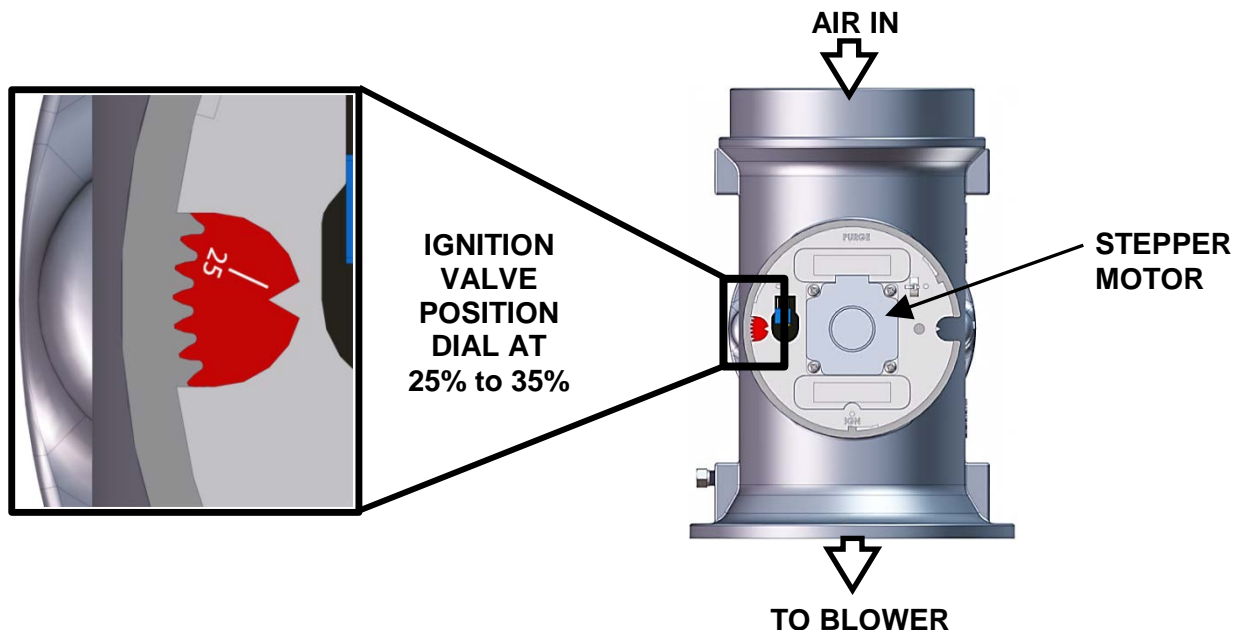

Figure 3-6. Air/Fuel Valve In Ignition Position
- (a) The Air/Fuel Valve rotates to the low-fire ignition position and closes the **Ignition** switch. The dial on the Air/Fuel Valve (Figure 3-6) will read between **25** and **35** to indicate that the valve is in the low-fire position.